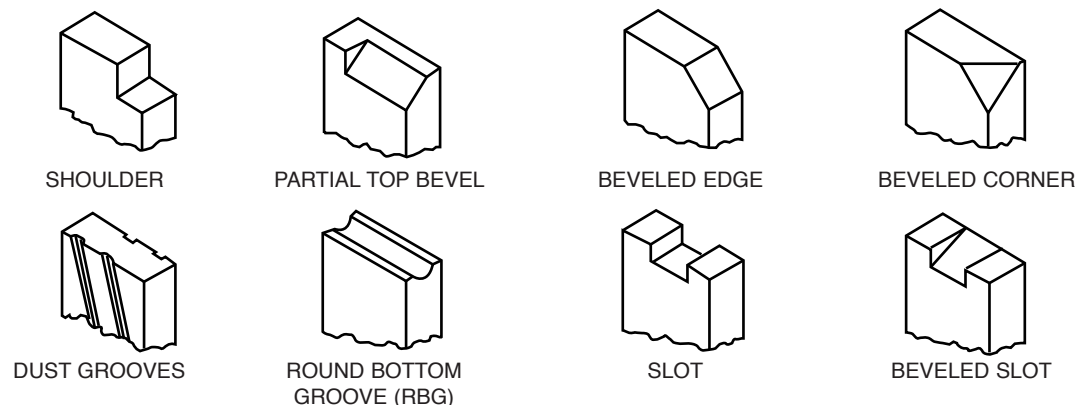

Figure 10
**Special machine work** is often required. Figure 10 illustrates several examples.